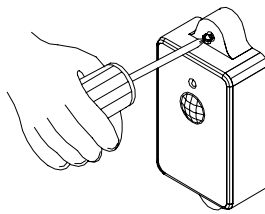

fig 1
- ① Discharge the Transmitter case: using screw driver to take off cover case of Transmitter (as fig 1)